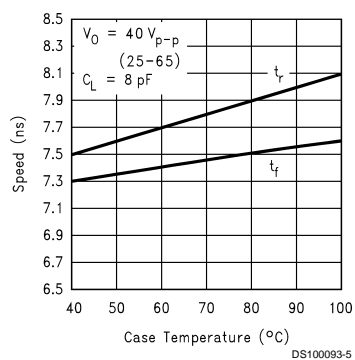

FIGURE 4. Speed vs Temp.
*Figure 4* shows the performance of the LM2407 in the test circuit shown in *Figure 2* as a function of case temperature. The figure shows that the rise time of the LM2407 decreases by approximately 5% as the case temperature increases from 50°C to 100°C. This corresponds to a speed degradation of 1% for every 10°C rise in case temperature. There is a negligible change in fall time versus temperature in the test circuit.